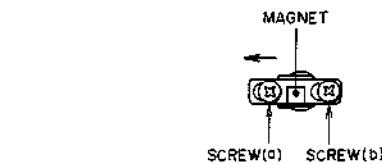
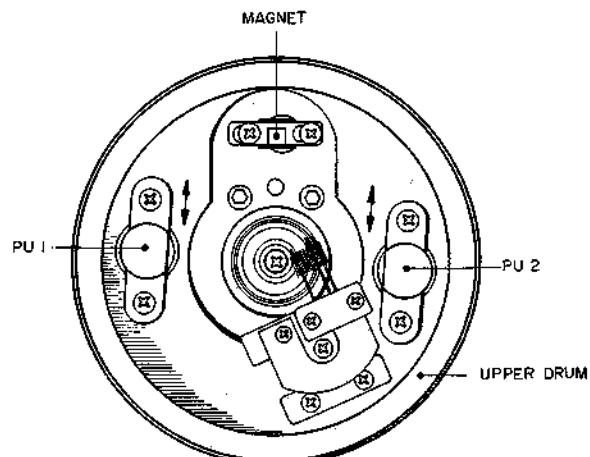

Fig. 4-21
Fig. 4-22
(9) Magnet and PU Head Adjustment
- Turn the magnet fully counterclockwise and secure it by tightening screws (a) and (b) as shown in Fig. 4-21 and Fig. 4-22.